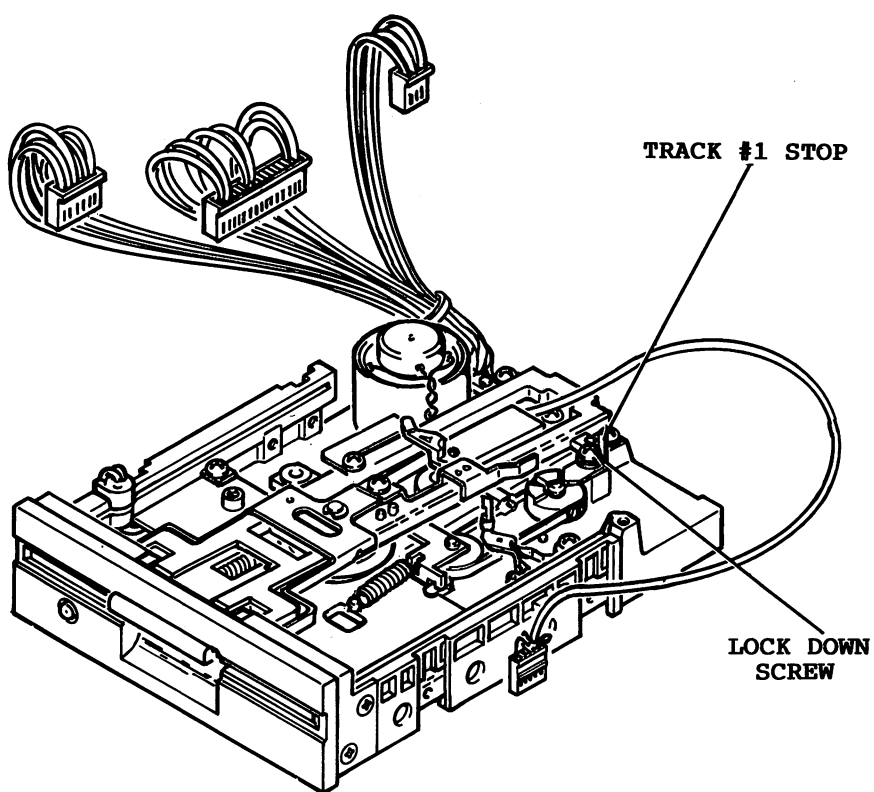

Figure 2-3. Track #1 Stop Adjustment.
6. Reconnect J1 to P1, J2 to P2, J5 to P5, J6 to P6 and J7 to P7 in such a manner that access is still allowed to the Track #1 Stop adjustment. (See Figure 2-3)
8. After the head settles and the Display T&S program begins displaying Track information, adjust the Track #1 Stop adjustment in the following manner (See Figure 2-3):